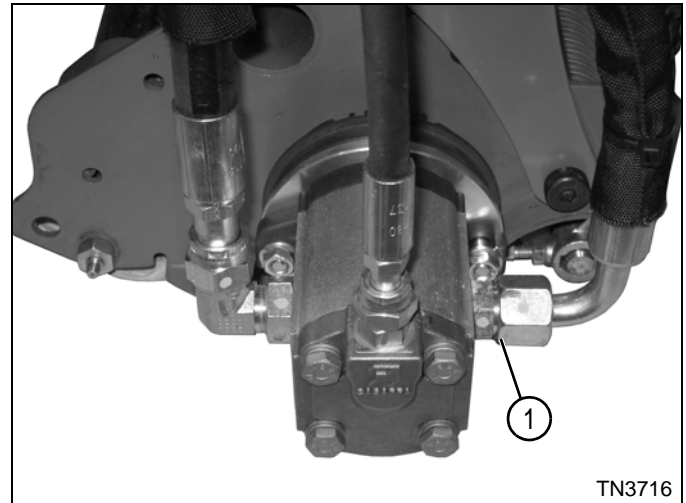

Figure 6-28
See Figures 6-28 through 6-30.
13. (See Figure 6-28.) Disconnect hydraulic hose at fitting (1) on right reel motor and remove blocking disk.